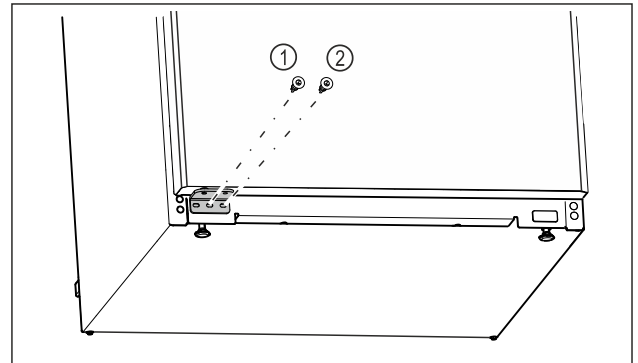

Fig. 17
- Tighten the middle screw of the swap bearing block Fig. 17 (1) with a Torx 20 screwdriver.
- Tighten the inner screw of the swap bearing block Fig. 17 (2) with a Torx 20 screwdriver.